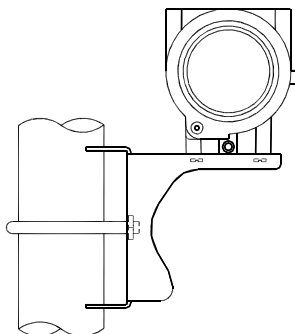
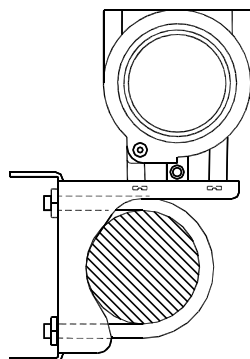

Figure 2.3 The installation of pipe mounting angle bracket-1
Figure 2.4 The installation of pipe mounting angle bracket-2
**The installation of pipe mounting angle bracket:** the typical installation as Figure 2.3, Figure 2.4 shows. NCS-TT105 temperature transmitter in angle bracket using four bolts provided, and then fix the angle bracket on the horizontal pipe in  $\Phi 50\text{mm}$  around with the U-shape bolt provided.